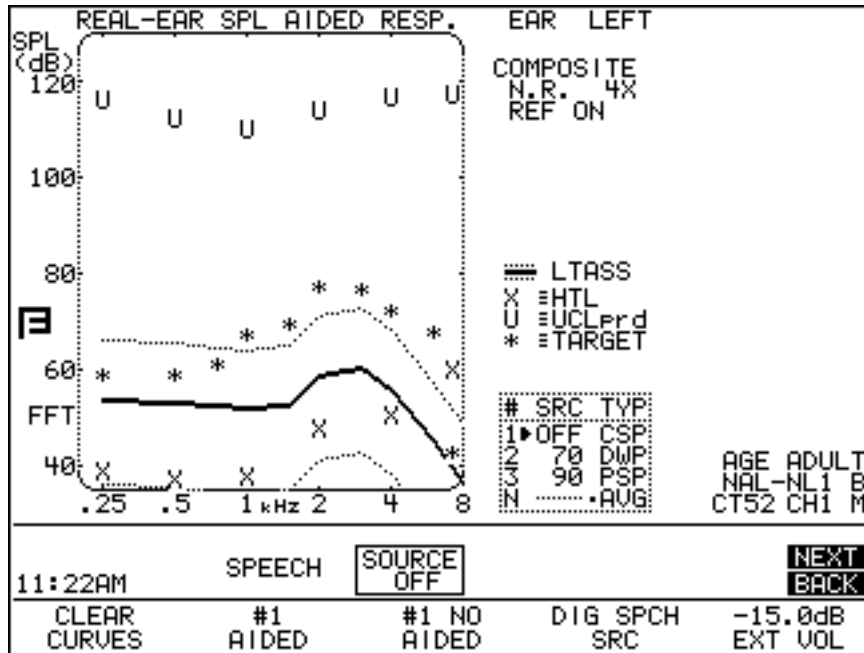

Figure 5.5.5—SPL Testing Screen with a DSL WDRC target and the LTASS speech banana.
- When DSL LIN or DSL WDRC is the fitting method, the FP35 will put three lines on the SPL Testing Screen, denoting the LTASS. Once a real-ear measurement is taken, these lines will disappear. See Figure 5.5.5.